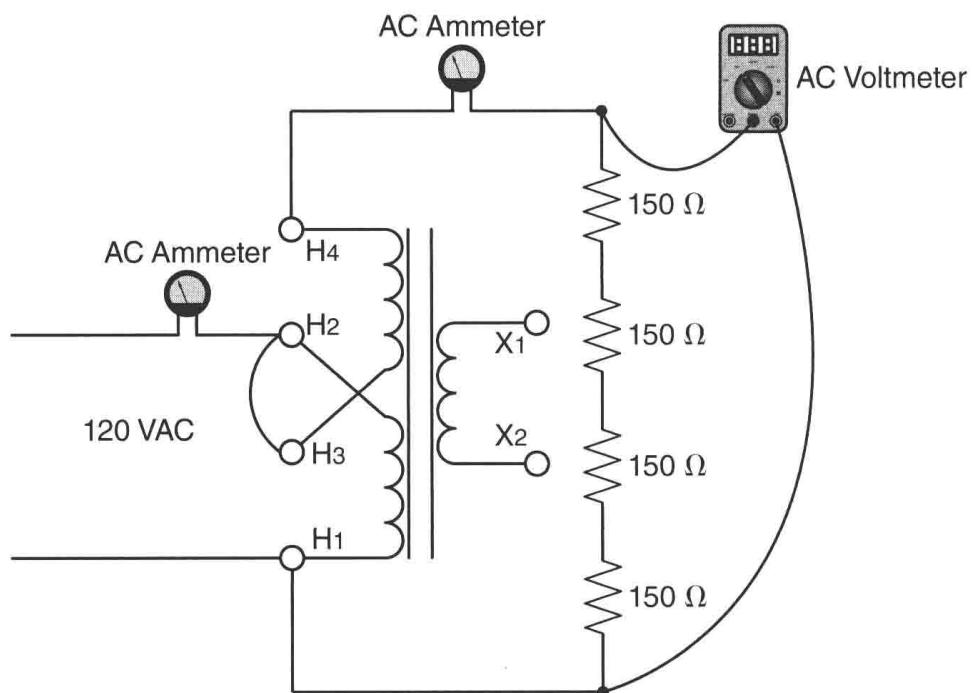

Figure 22-10 Adding load to the secondary winding.
18. Connect the circuit shown in Figure 22-10.